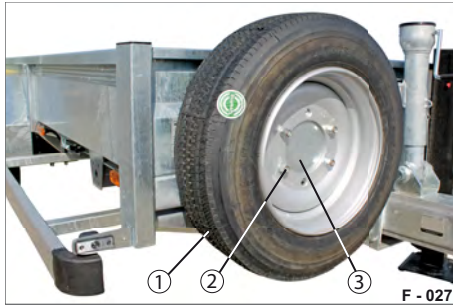
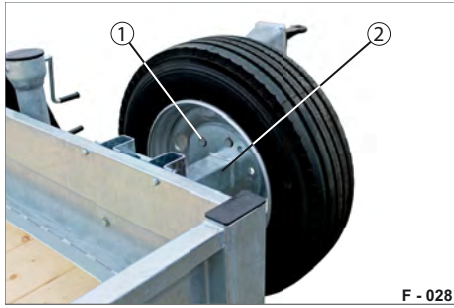

Fig. 58 Spare wheel on the front wall
Fig. 59 Spare wheel on the front wall
- ▶ Unscrew all 4 nuts (Fig. 58/2). Hold the spare wheel firmly in the process.
- ▶ With a second person helping, remove the spare wheel from the bracket (Fig. 58/3). If necessary, use an auxiliary aid for this purpose.
- ▶ With a second person helping, place the spare wheel (Fig. 58/1) onto the pins (Fig. 59/1) of the bracket (Fig. 59/2).
- ▶ Firmly screw on the spare wheel with min. 4 nuts (Fig. 58/2).